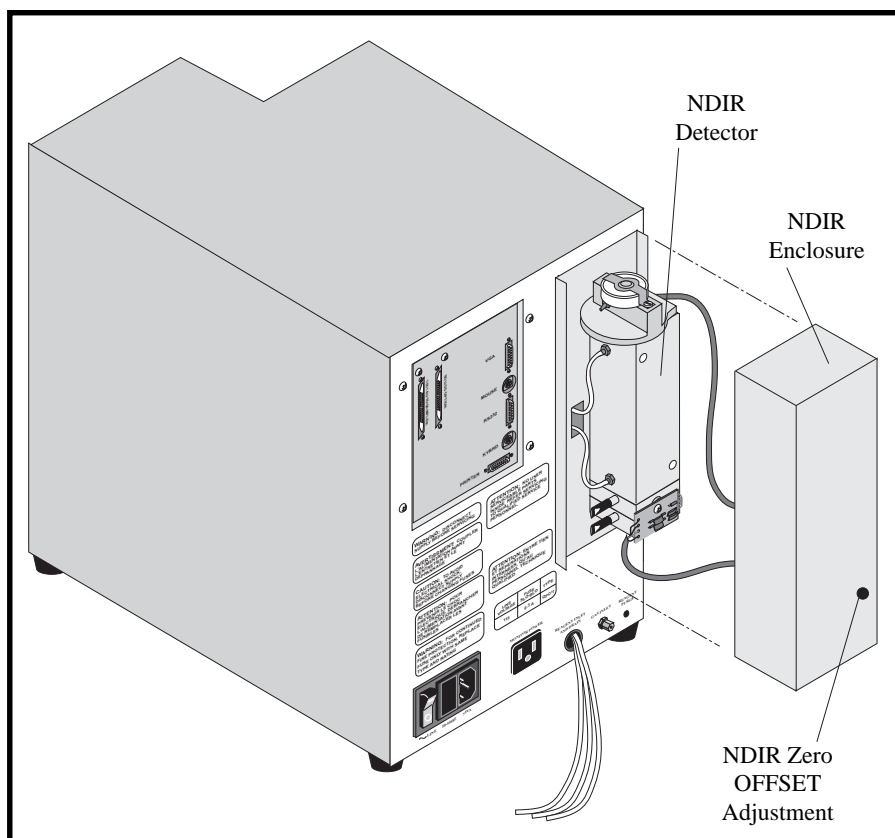

Figure 6.1. Nondispersive Infrared (NDIR) Detector
3. Slowly turn the NDIR Zero OFFSET adjustment (on the NDIR enclosure) (see Figure 6.1) clockwise to increase the baseline (positive shift) or counter-clockwise to decrease the baseline (negative shift). Set the output between 4,000 and 8,000.